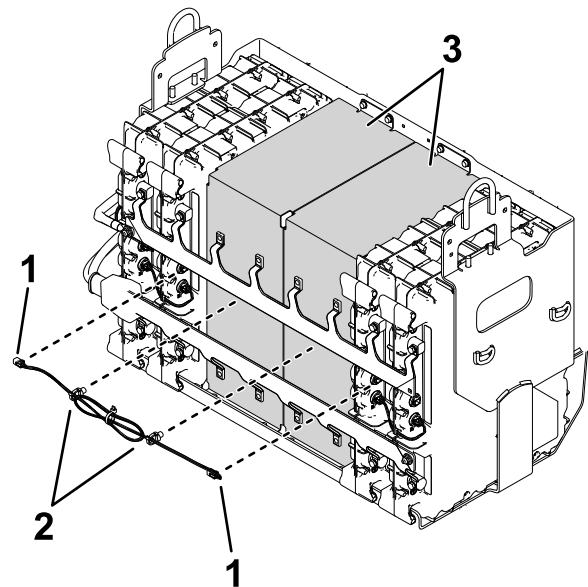

Figure 2
2. Remove the wire harness from the battery spacers and the batteries (Figure 2).
3. Remove the battery spacers (Figure 2) from the battery compartment.
- B. Install the wire harness (shown in Figure 2) that you removed in the previous procedure